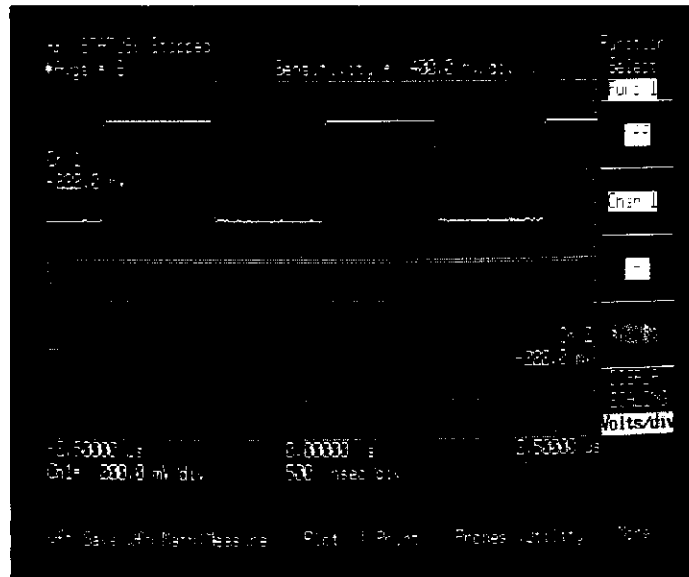

Figure 7-25. Selecting Func 1.
4. Insure Func 1 (function 1) is the selected function (see figure 7-25)